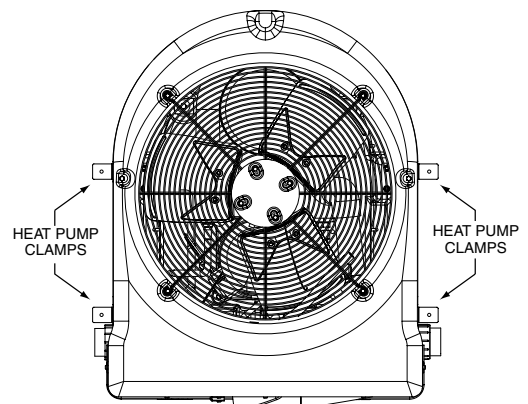

Figure 4.
3. Place the clamps at the base of the heat pump in the 4 locations indicated in **Figure 4**, (2 in. undercut [notched area] on either side).